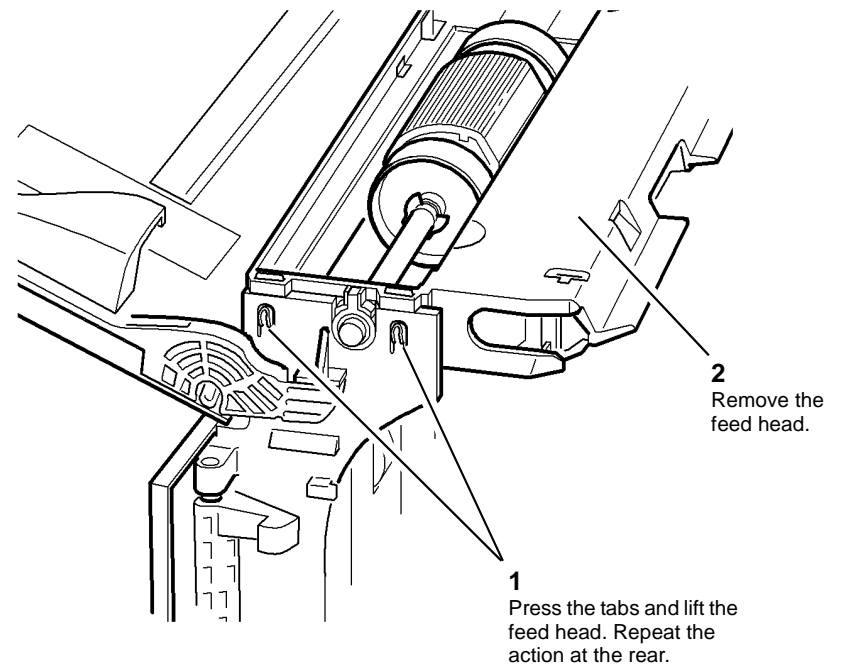

Figure 4 Bypass feed head removal
5. Remove the feed head, Figure 4.